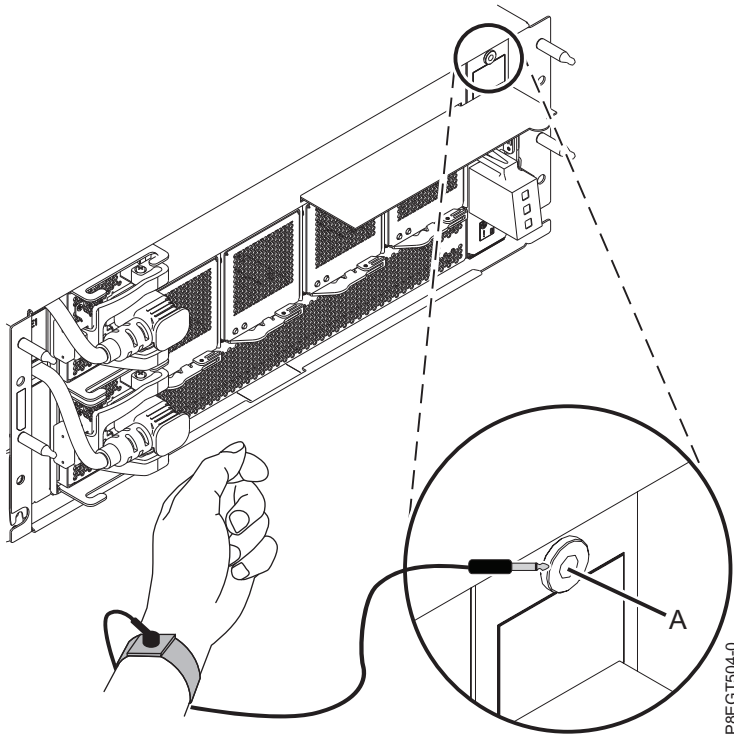

Figure 6. Attaching the wrist strap to the front ESD jack
- b. Attach the wrist strap. Your system has an ESD jack. Plug the wrist strap into the ESD jack that is located at the front of the system. See Figure 6.